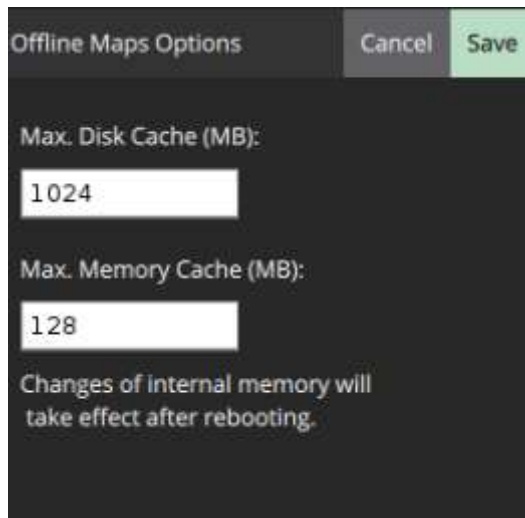

Figure 6-11
Step 2 Select **Options** on the lower right corner of the page; enter the setting interface of disk cache, as shown in Figure 6-11. Refer to the settings below, and select "Save" to make settings valid.